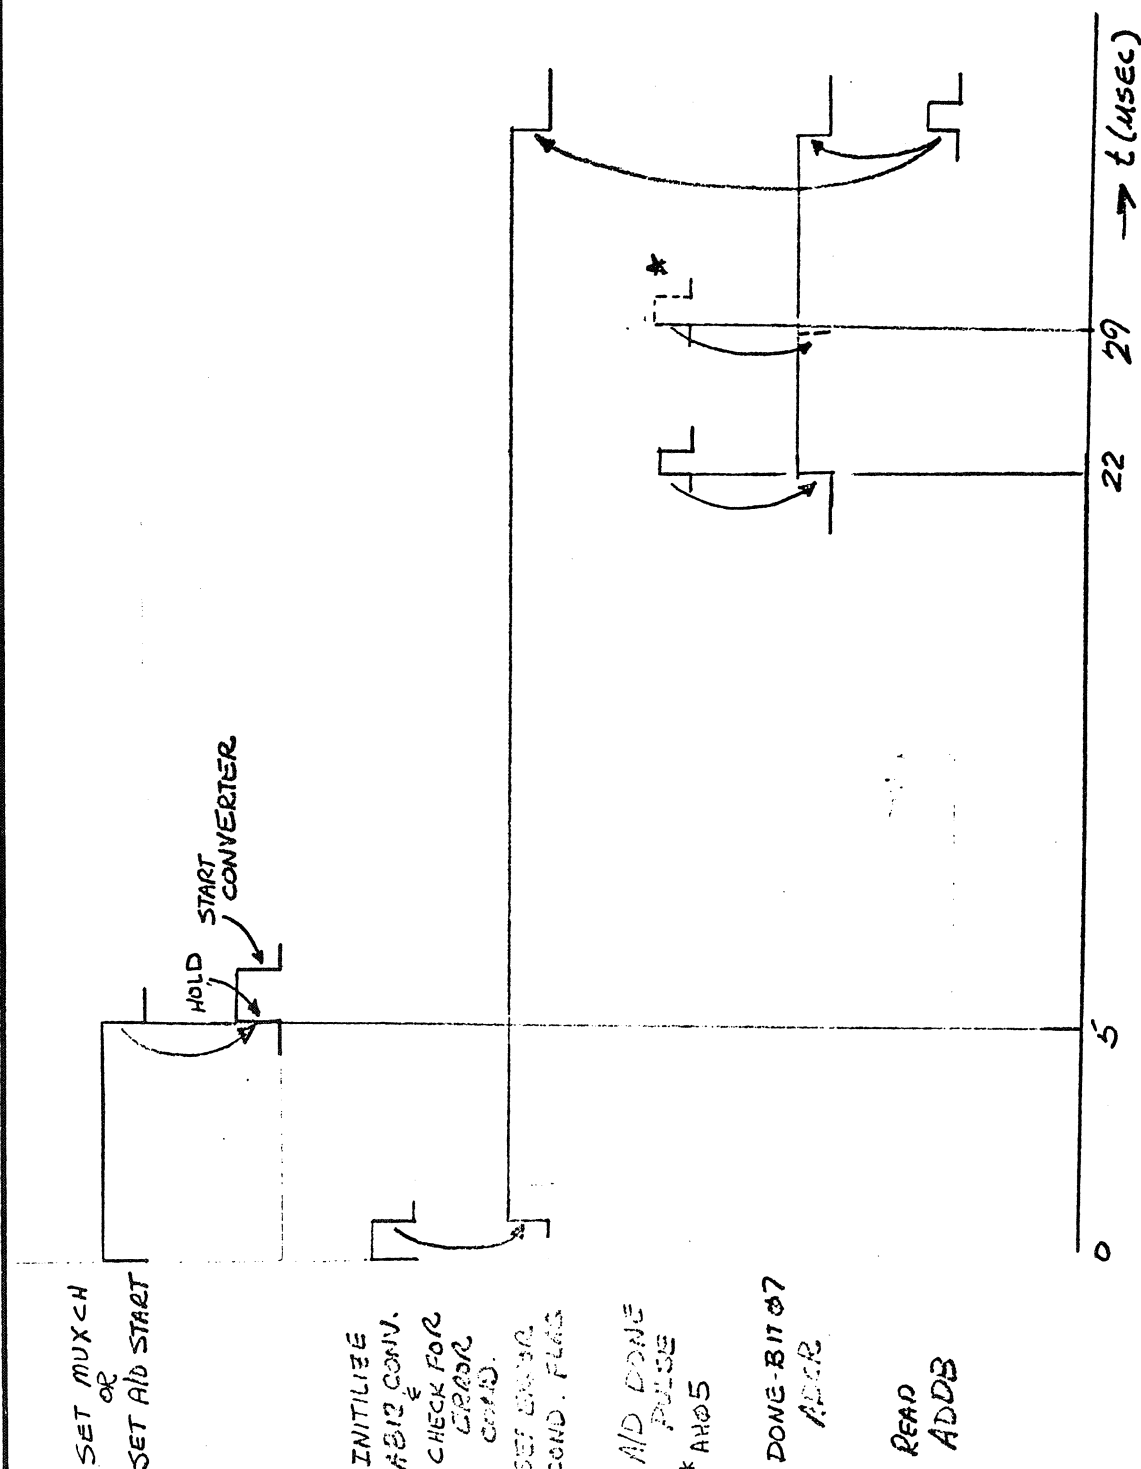

FIG 3.3 AD01-D SYSTEM TIMING
3.4	Timing Figure 3.3 shows the timing operations within the AD01-D